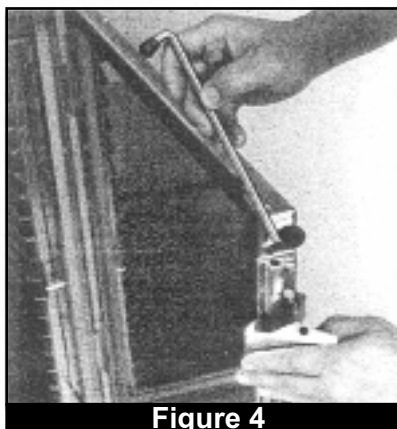

Figure 4
8. Remove positive door latches (Fig. 4):